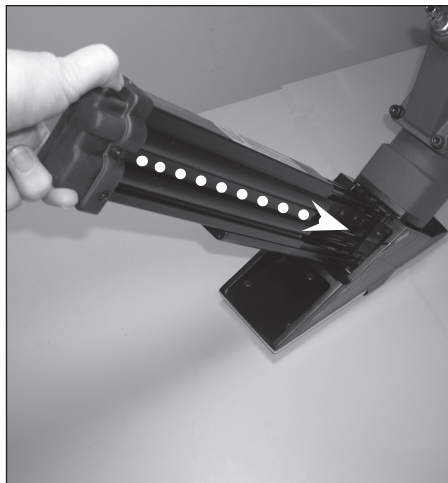

Figure 18 - Push the magazine closed
3. Push and lock the magazine door back in place (see Figure 18).